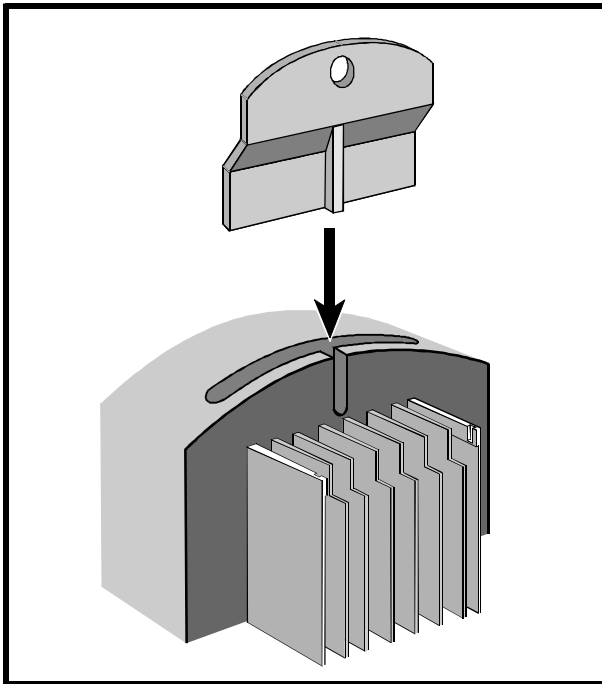

Figure 2–14 General representation showing the fitting of a through-panel mounting bracket in the top of the Drive
3. Insert the through-panel mounting bracket into the recess in the top of the Drive heatsink, as shown in Figure 2–14.